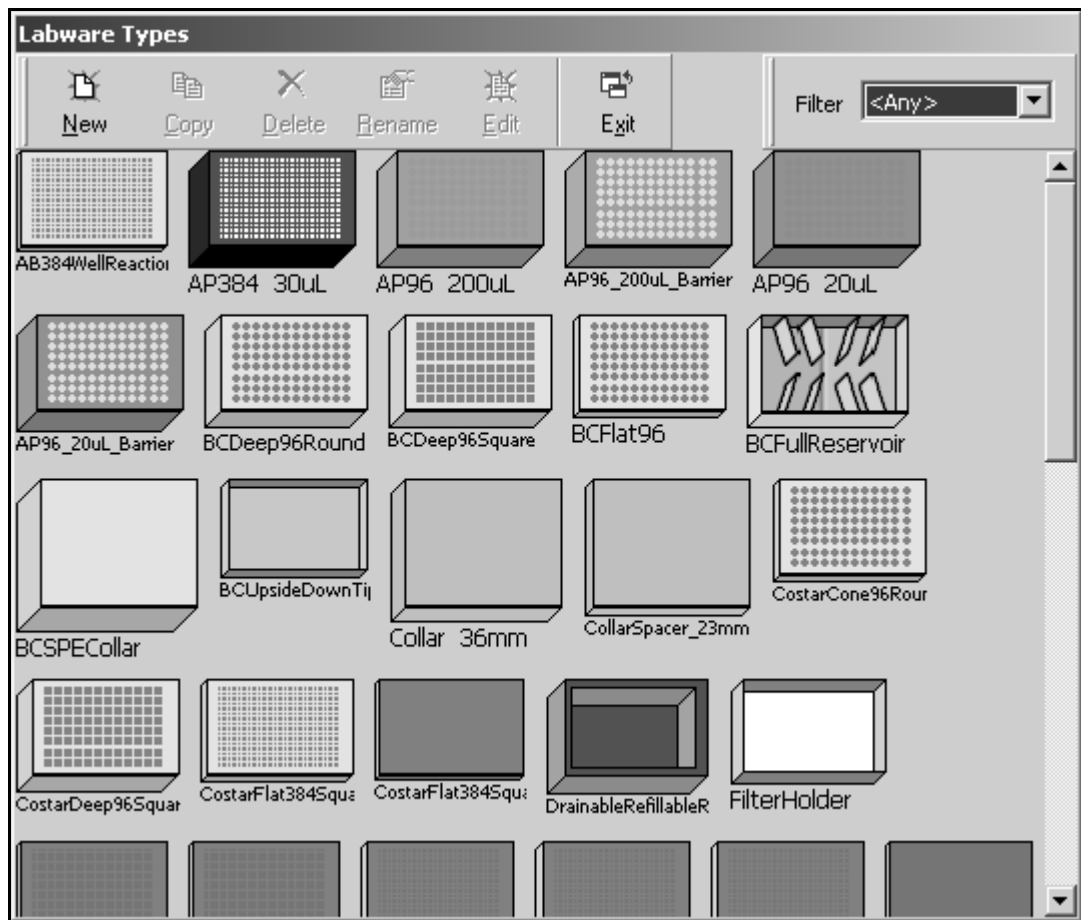

Figure 3-2. Labware Types
1. From the Project menu, choose **Labware Type Editor**. Labware Types appears (Figure 3-2).